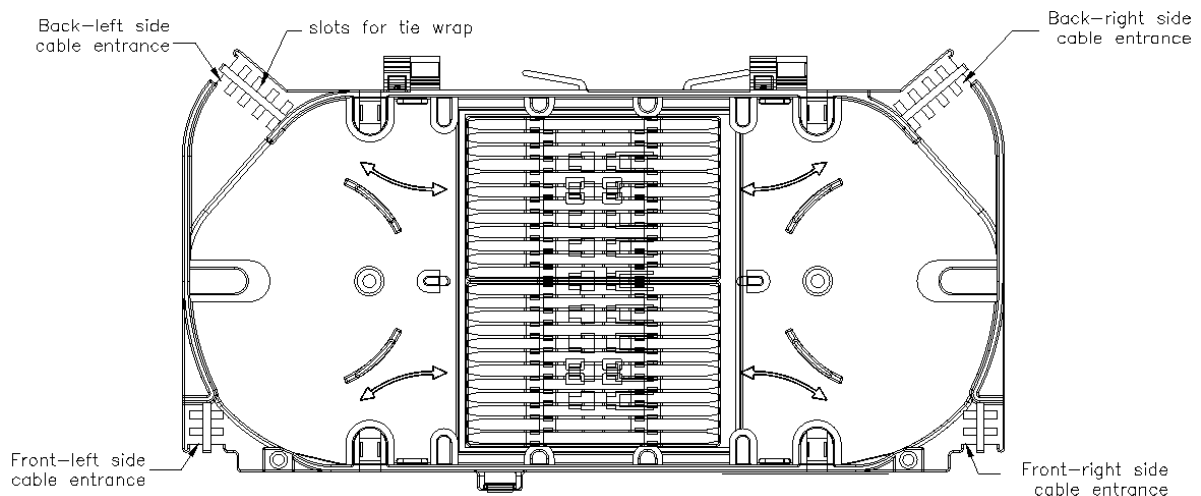

Figure 4
2. It is recommended to use same side tray cable entrances for the pigtails entry, the other side for incoming cables. For example, for the pigtails, we could use the back side two cable entrances, the back-left side for 24F 0.9mm single cables, back-right side for another 24F. For the incoming cables, use the front side cable entrance, the front-right side for 48F cables if they are from the left side opening of shelf, otherwise use the front-left side, as Figure 4.